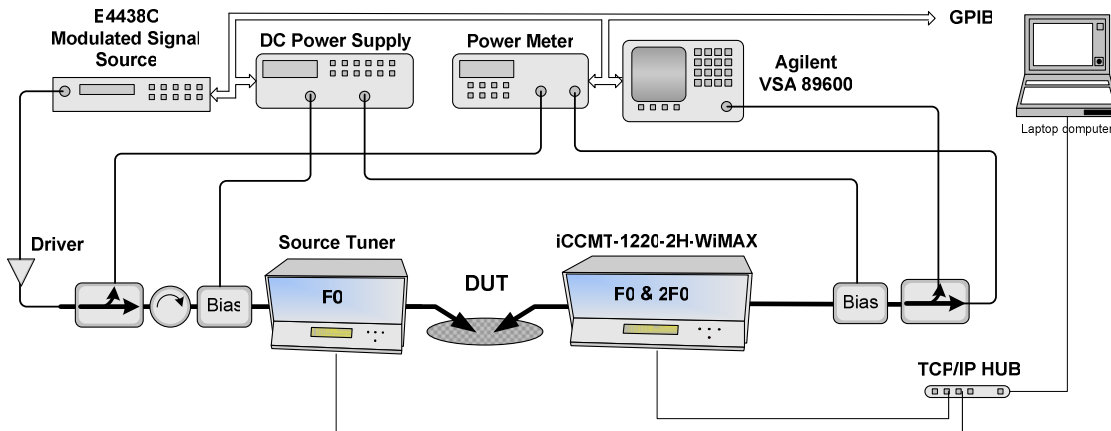

Figure 2: WiMAX Setup using a Combination Tuner (integrated Fo & 2Fo)
- Focus Combination Tuner iCCMT 1220-2H, specifically designed for WiMAX (Fig.2)
Solution 2: Using a Combination WiMAX Tuner for fo and 2fo tuning (Figure 2)